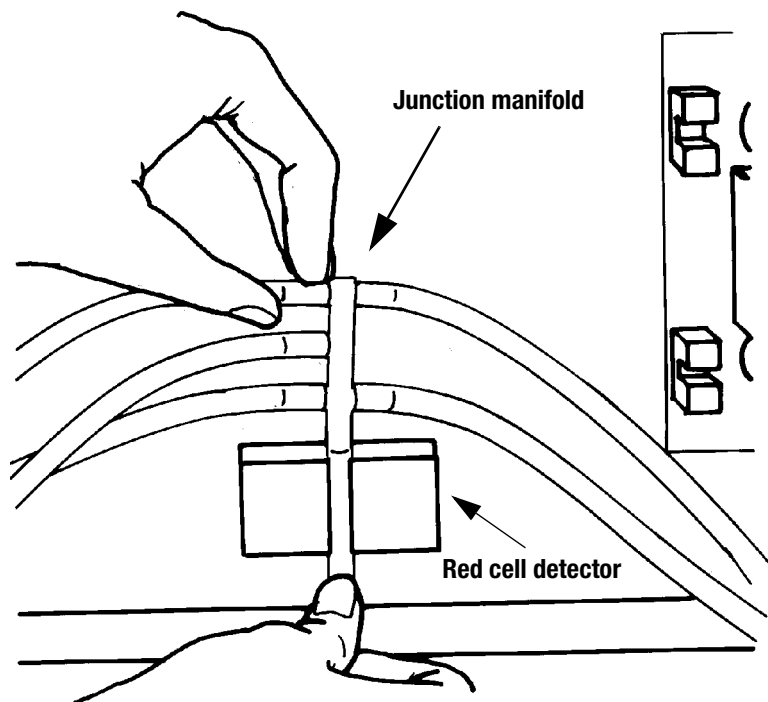

Figure 6-1: Inserting the clear tubing into the red cell detector
- 6 Insert the clear tubing (below the junction manifold) into the RCD (Figure 6-1). The tubing must be fully inserted in the back of the slot.